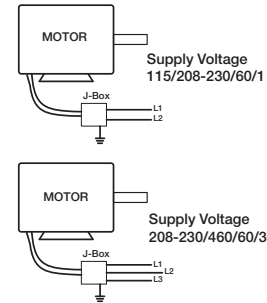

Figure 8 — Typical Wiring Diagram
8. Mount and wire safety disconnect switch under ventilator cover and wire motor per connection wiring diagram. See Electrical Connection, Figure 8. Wire control switches at ground level.
NOTE: Refer to Figure 8 for connection wiring diagram.